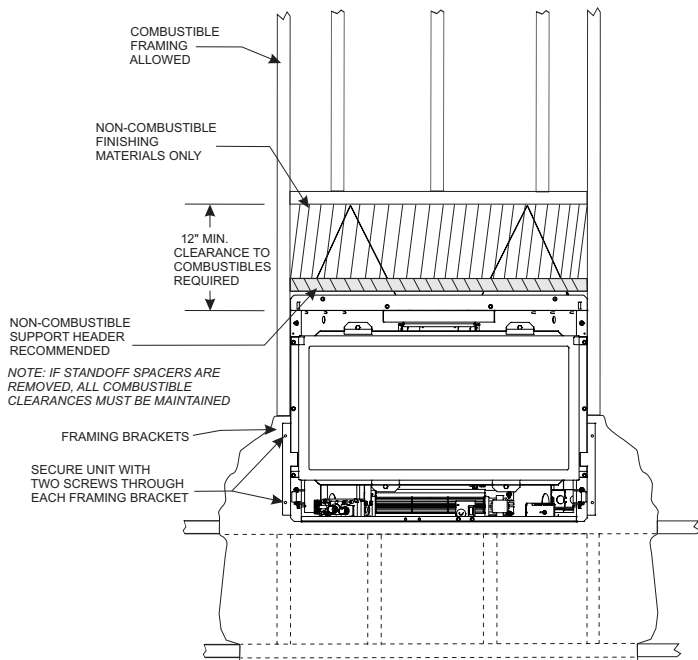

Figure 5
The non-combustible support header recommended in Figure 5 could be a metal stud that is tied in horizontally above the unit. This optional header may take the place of the two top standoff spacers. If the standoff spacers are not used, the combustible above the fireplace must still remain at the minimum combustible clearance opening heights as indicated by Figure 2, page 7.
5. Secure unit to wall opening with common screw type fasteners. **See Figures 5 and 9.**